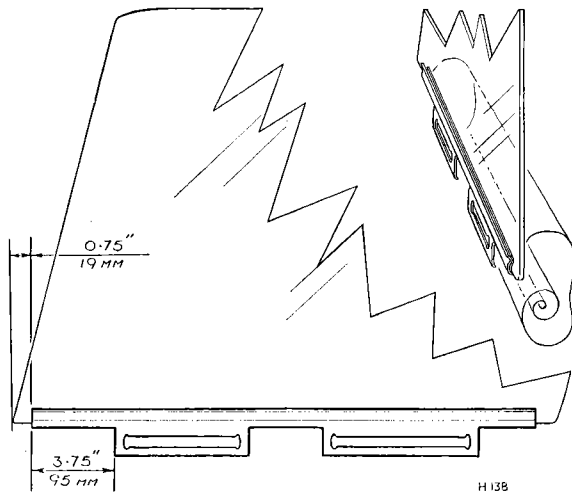

Fig. 72. Door glass/channel
- (a) Place one end of the polythene sheet together with the rubber weatherstrip over the channel run (Fig. 72).
- (b) Position the glass, as shown on Fig. 72, and compress the glass into the channel.